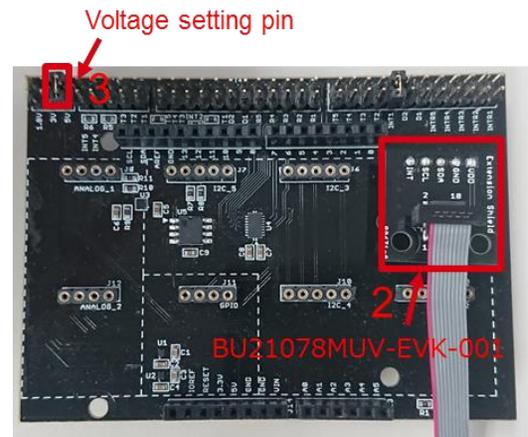

Figure 2. Connection between BU21078MUV-EVK-001 and the SensorShield
2. Connect BU21078MUV-EVK-001 to the socket of I2C area on the SensorShield (Figure 2)
3. Set Voltage of the SensorShield to 5.0V (Figure 2)